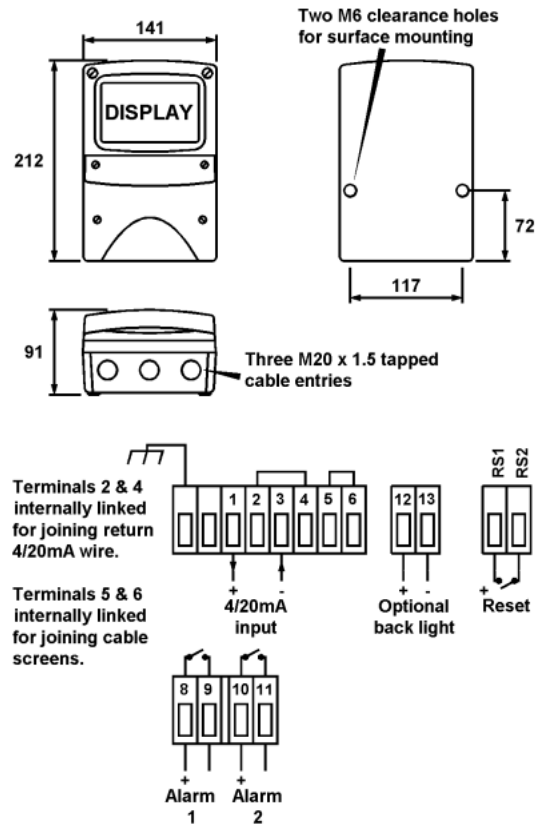

Fig 5 Dimensions and terminal connections
- d. Connect the field wiring to the terminals as shown in Fig 5.